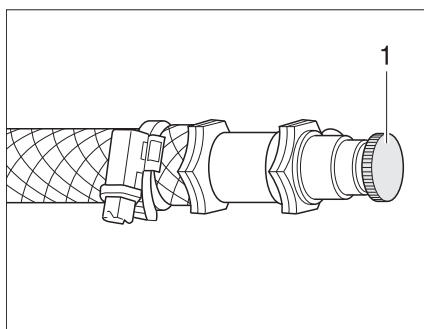

Fig. 173 Bleeding valve of hot-water heater
- Open the bleeding valve (Bild 173,1) and leave it open until no more air escapes.